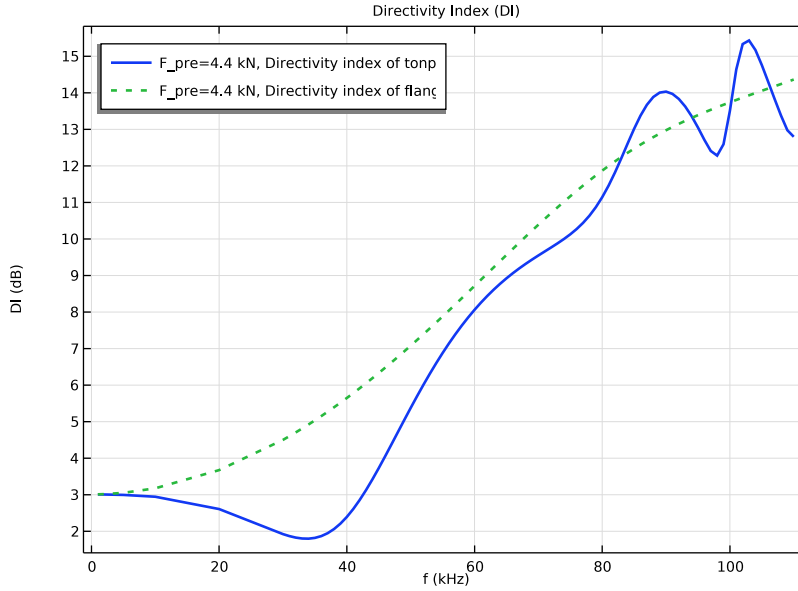

Figure 11: Frequency response of the Directivity Index (DI) computed at an on-axis distance of 500 m from the head mass.
Figure 11 shows the Directivity Index (DI) of the tonpilz transducer (blue curve) and compares it with the DI of a flanged piston (green curve). The latter can be computed from analytical expression as shown in Table 2. It is defined by the variable `DI_fl_pist`. Note that the DI is very similar to that of a flanged piston for most of the frequency range.